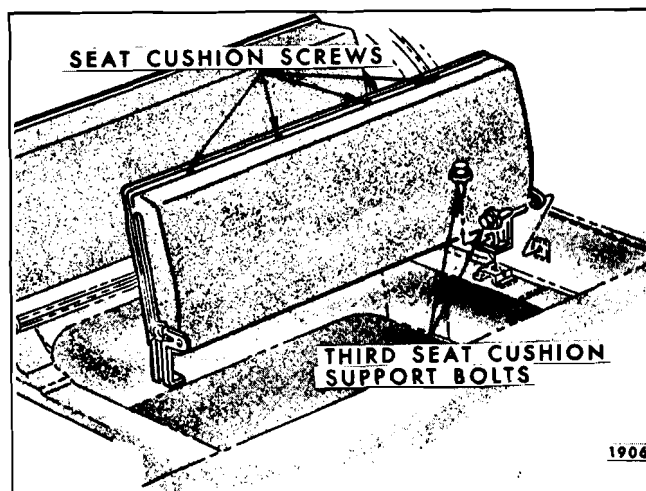

Fig. 15-72—Folding Third Seat Cushion
1. Lift third seat cushion to half raised position or approximately vertical to floor pan (Fig. 15-72).
2. Remove four seat cushion screws from rearward edge of cushion (Fig. 15-72).
1. Lift third seat cushion to a half raised position or approximately vertical to floor pan. (See Fig. 15-72).
2. Remove two bolts at each side of seat securing supports to body (Fig. 15-72), then, remove seat cushion, panel assembly and supports from body and place on a clean protected surface.